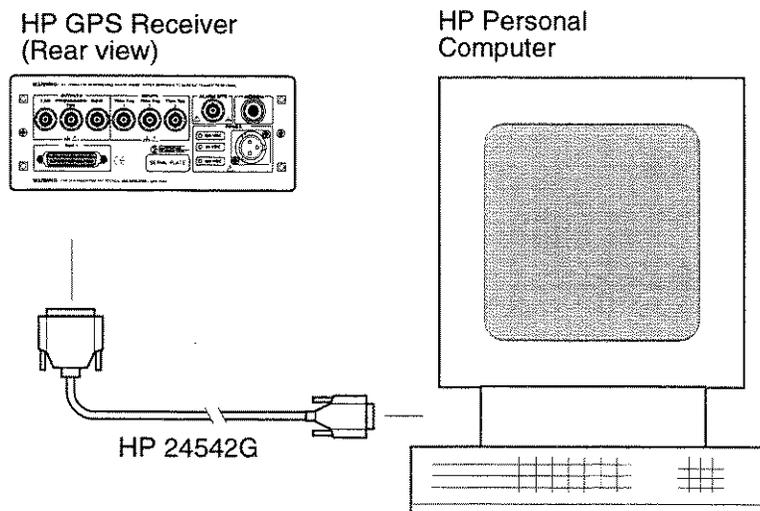

Figure 3-1. Connecting the HP GPS Receiver to a Computer
- 1 Although this isn't necessary for the Receiver to attain GPS lock, connect the HP GPS Receiver to the serial port of a PC via the Receiver's rear-panel **PORT 1** RS-232C port to observe the progress of the Receiver. Use an HP 24542G interface cable as shown in Figure 3-1.